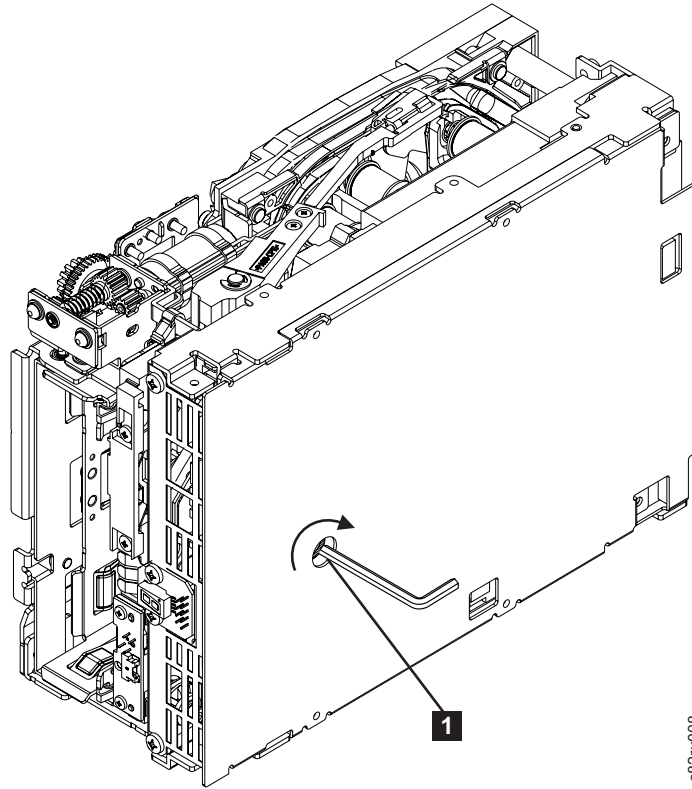

Figure A-13. Using hex wrench to rewind tape into cartridge
6. From the bottom of the drive, locate the access hole (**1** in Figure A-13 on page A-14) in the bottom cover. Insert a 2.5 mm offset hex wrench through the bottom cover access hole and into the reel motor axle. begin spooling tape back into the cartridge by turning the hex wrench clockwise.